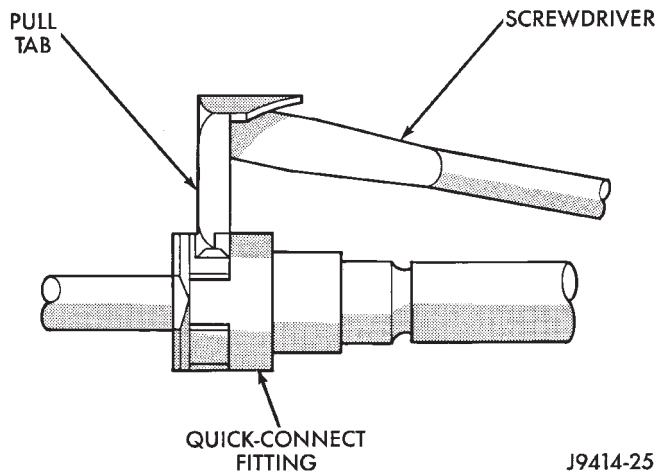

Fig. 15 Disconnecting Single-Tab Type Fitting
(3) Clean fitting of any foreign material before disassembly.
(4) Press release tab on side of fitting to release pull tab (Fig. 15).
(5) While pressing release tab on side of fitting, use a screwdriver to pry up pull tab (Fig. 15).